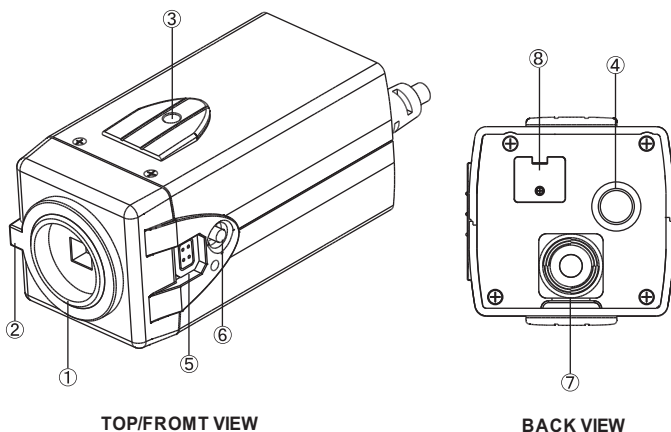

Fig.1
5. Loosen the back focus lock screw at the side of the camera using a 1.5 mm ALLEN WRENCH. Turn the lens mount to obtain the sharpest image on the monitor. Then tighten the back focus locking screw clockwise. (See Fig.1 for location.)
(1) Setting method by using OSD(On-screen Display)function. Refer to the next section in details.
The SW which is described to the following sentence shows Fig.1 ⑥.
1. Press and hold down the SW for 2 seconds or more. The SW on the rear panel is used. (Fig.1 ㊟)